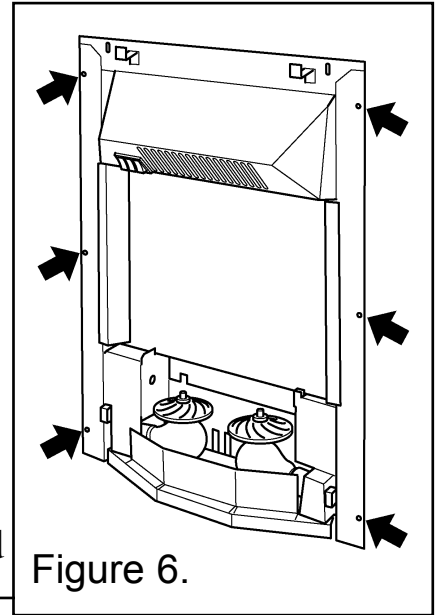

Figure 6.
- If necessary, the heater can be additionally secured by screws through the side flanges - see figure 6.